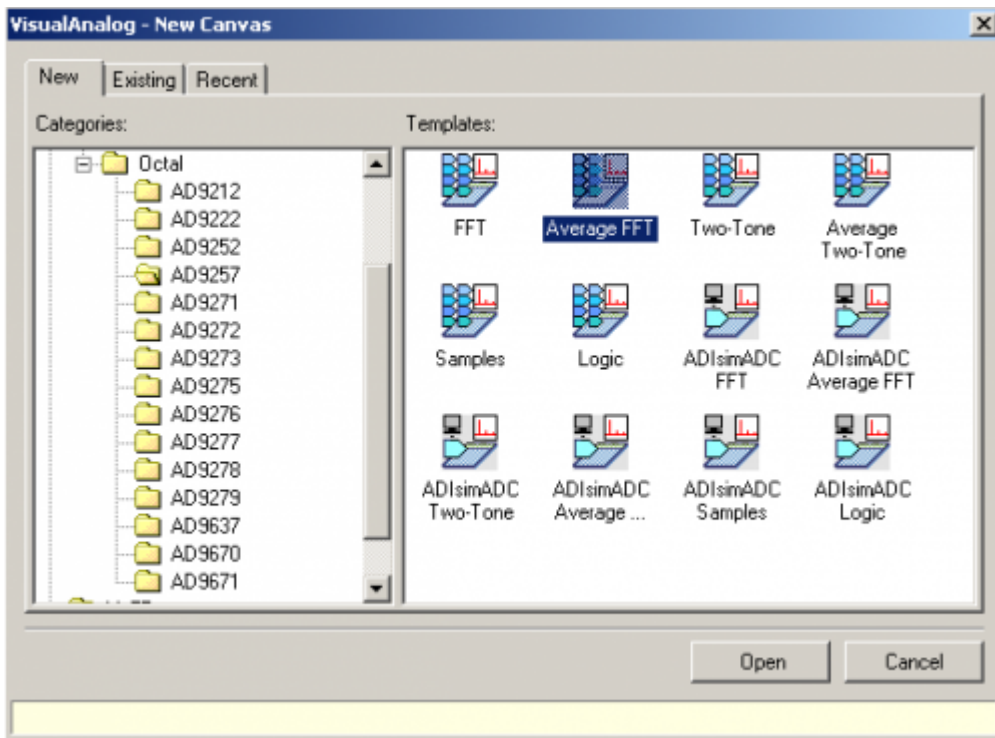

Figure 3. VisualAnalog, New Canvas Window
1. Open VisualAnalog on the connected PC. The appropriate part type should be listed in the status bar of the **VisualAnalog - New Canvas** window. Select the template that corresponds to the type of testing to be performed (see Figure 3, where the AD9257 is shown as an example).